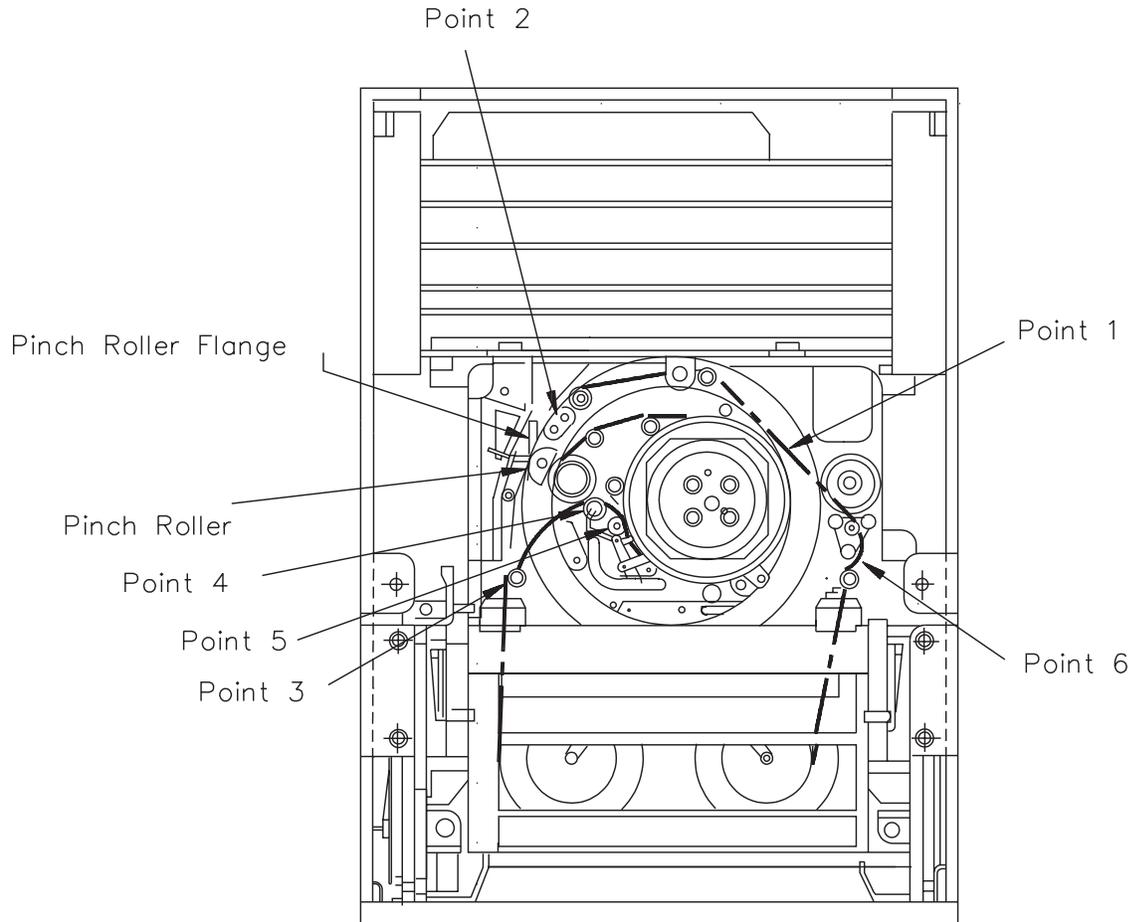

Figure 17-3
1. Using the nonconductive tool, loosen the tape at point 1, shown in Figure 17-3, by positioning the tool between the tape and the rotating head and moving the tool toward the rear of the EXB-8200. This action pulls the tape off of the takeup reel and makes a loose loop in the tape.
(same as Figure 17-3)